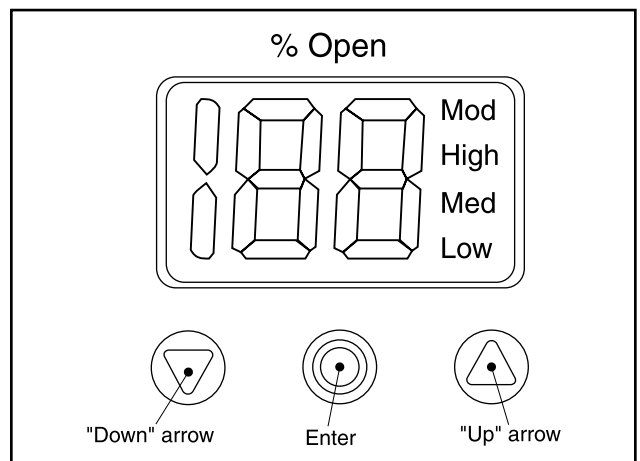

Figure 10 - ICAD Display
- "Up" arrow push button (Figure 10)